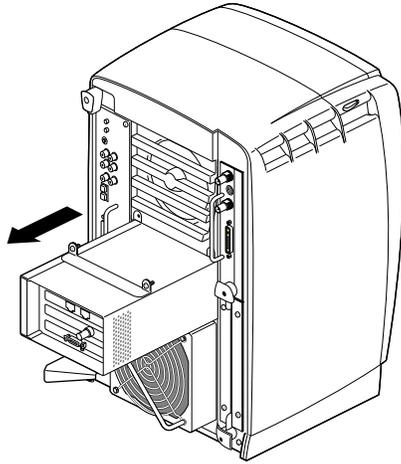

Figure 4-8 Removing the PCI Module
3. Remove the PCI module by sliding it out of the workstation, as shown in Figure 4-8, then place it on a dry, antistatic surface, such as your desk.